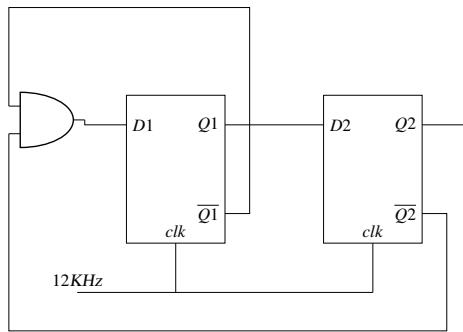

Fig. 5.16
16. In the circuit shown in Fig. 5.16, the clock frequency is 12 KHz. The frequency of the signal at $Q2$ is _____ KHz. (GATE EC 2019)